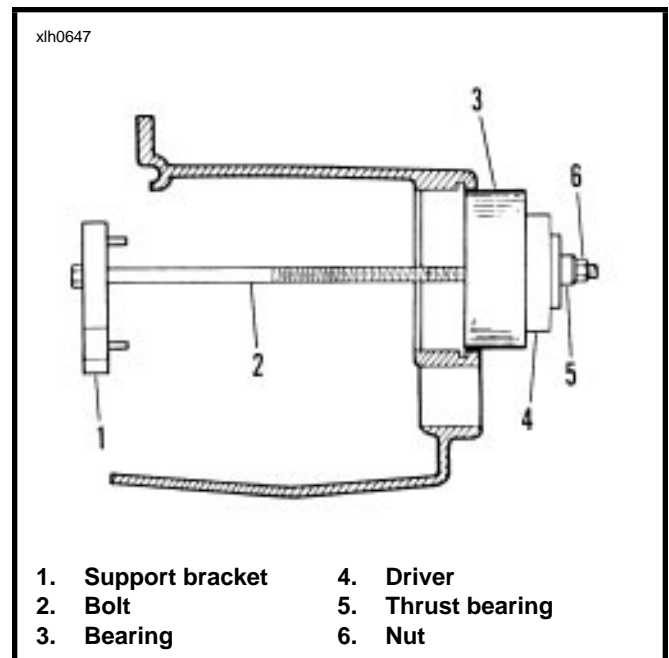

Figure 6-43. Installing Mainshaft Ball Bearing
2. See Figure 6-43. Insert bolt (2) through support bracket (1), **new** bearing (3), driver (4) and thrust bearing (5). Thread nut (6) on end of bolt. Tighten nut carefully until bearing is started in bore squarely. Tighten nut (6) until bearing is seated against shoulder in bore.